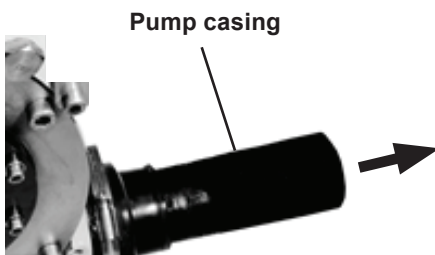

Figure 4
6. Carefully jog/run motor to expel hose from pump casing outlet side. See Figure 4.